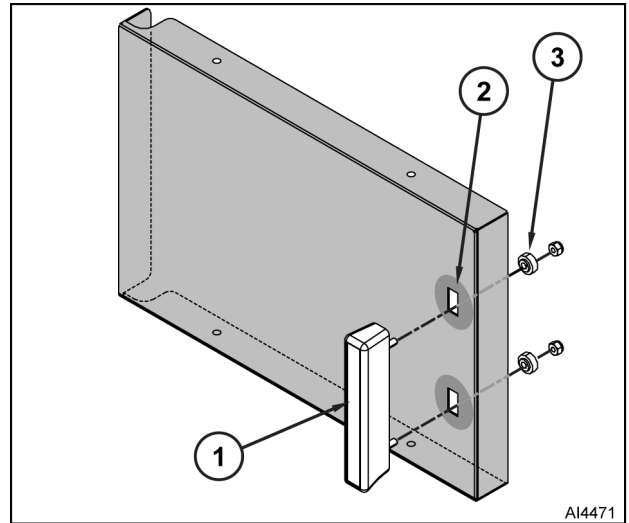

Fig. 15
4. Remove lock nuts, stepped spacers (3, Fig. 15) and door handle (1) from door.
**NOTE:** Apply Lubriplate 630AA (2, Fig. 15) around slots of outer door housing where step spacers contact housing.